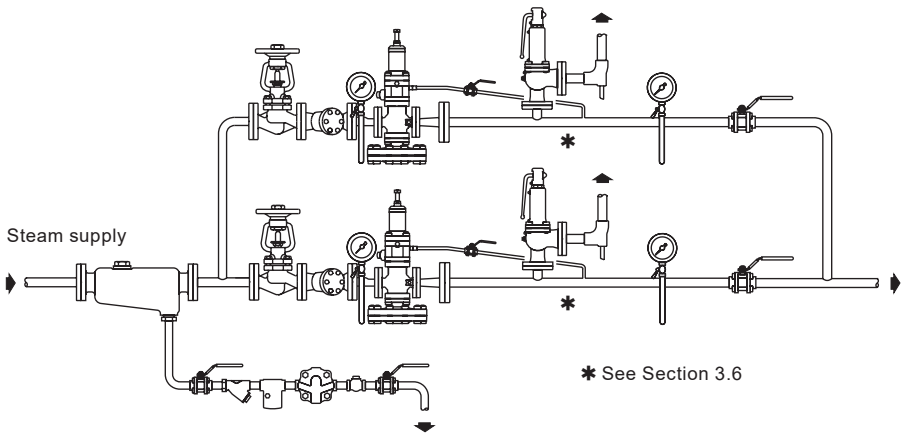
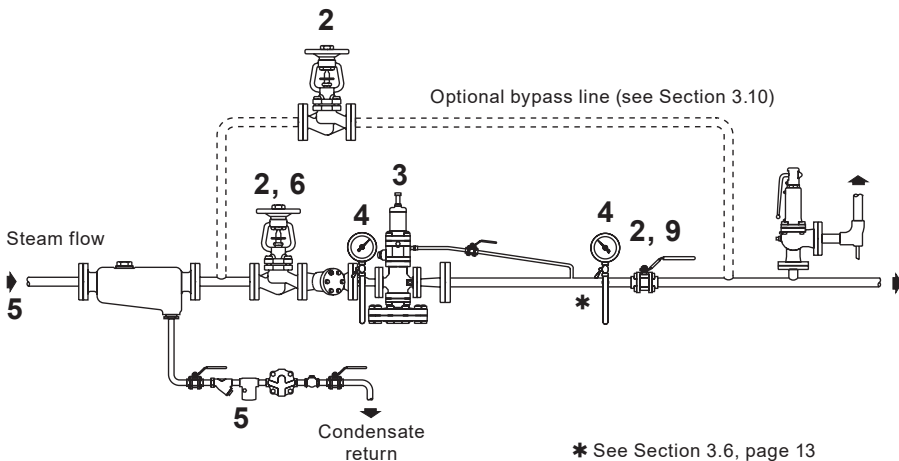
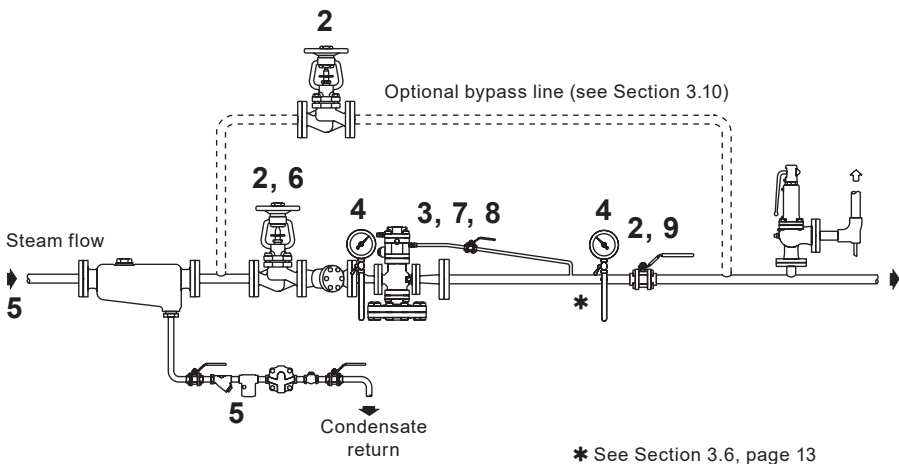

Fig. 5 Two pressure reducing valves in parallel
Fig. 8 Setting procedure sequence DP27, DP27E and DP27Y
Fig. 9 Setting procedure sequence DP27R
The actuating air supply controlled by the regulator should be connected to the union fitting attached to the air control block as shown in Figure 4. The air inlet connection is suitable for 6 mm O/D copper tube. The maximum reduced pressure available through the DP27R is 15 bar g. Typical installation is shown in Figure 9.
The valve should always be fitted in a horizontal pipeline with the main diaphragm chamber below the line (Figure 4). To meet high capacities or widely varying loads, or where stand-by facility is required, two or more valves may be used in parallel (Figure 5).
For continuous duty applications where a constant steam supply is essential then a parallel stand-by PRV station is recommended to allow for planned maintenance, see Figure 5, page 13. Alternatively a bypass line can be used (see Figures 8 and 9, page 17). It is important that the bypass should have a similar capacity to the pressure reducing valve which is achieved by choosing an appropriately sized valve or by using a reduced orifice in the line.
4.1 Setting procedure (Figure 8 and Figure 9)
DP27, DP27E and DP27Y (Figure 8)
DP27R (Figure 9)